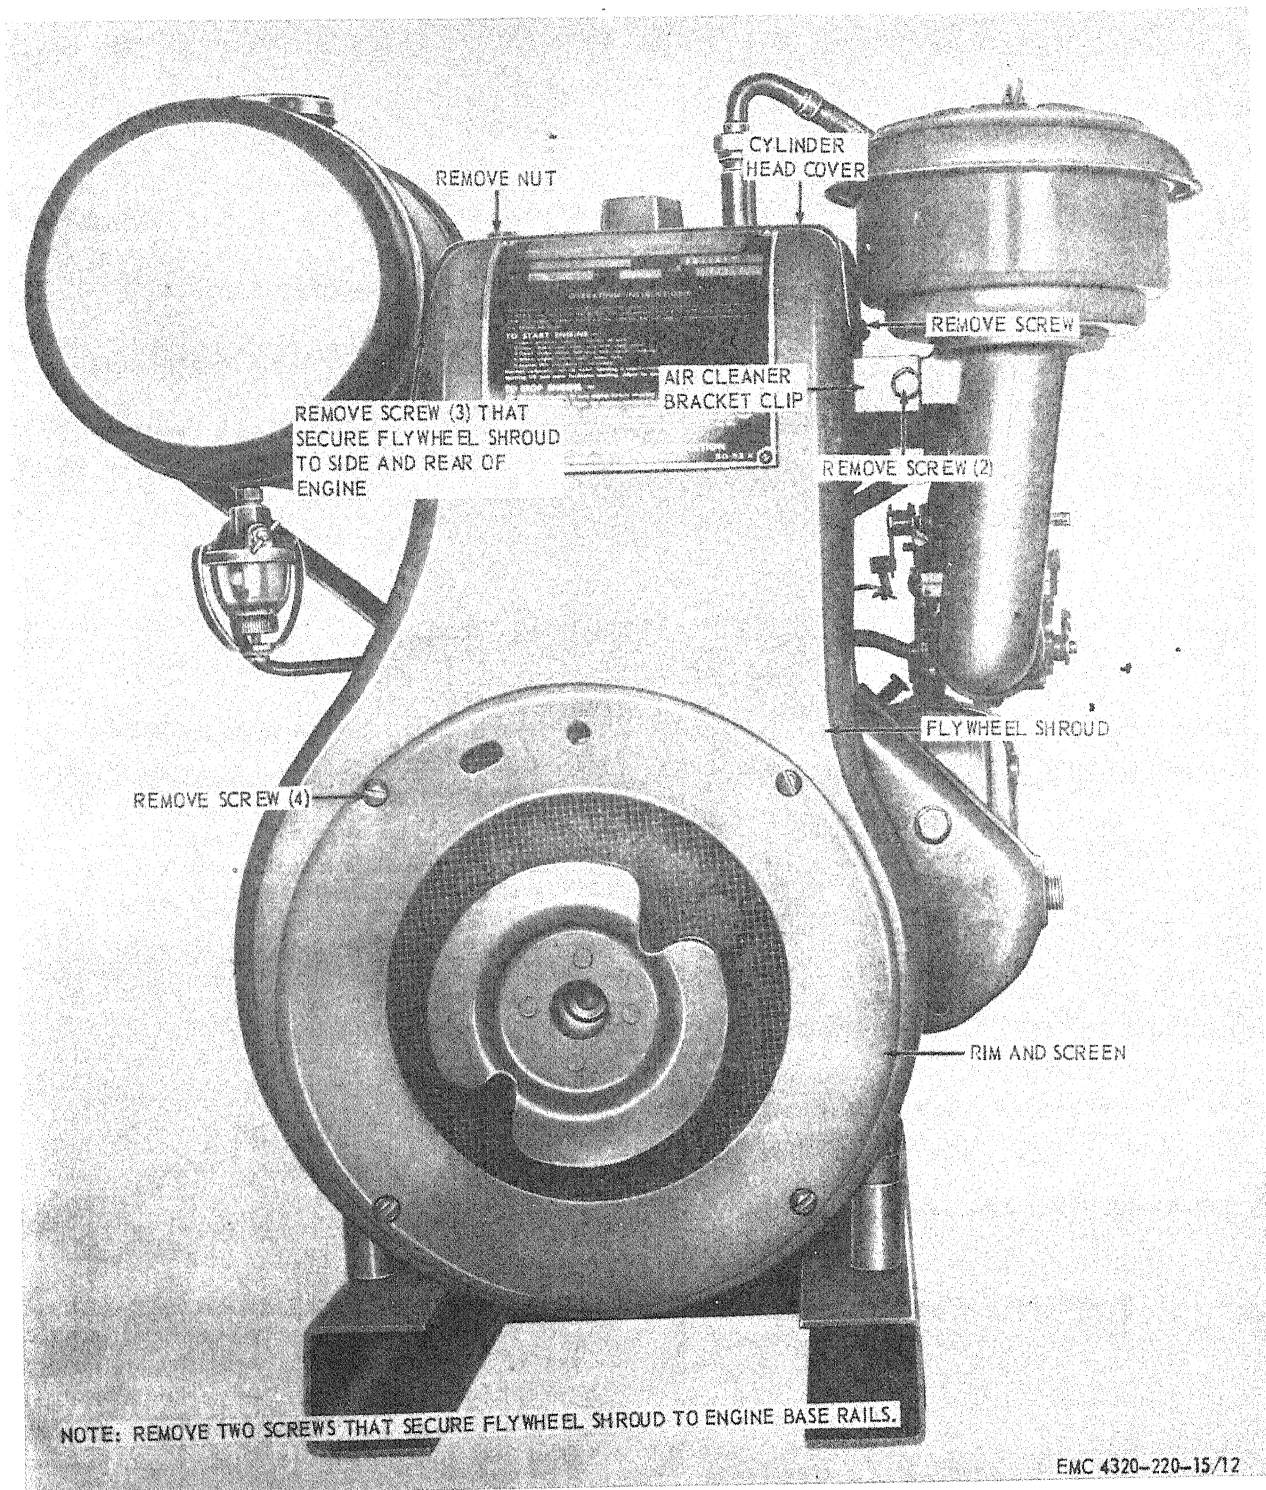

Figure 12. Cylinder head cover and flywheel shroud, removal and installation.
- d. Remove and install the cylinder head cover and flywheel shroud as shown by figure 12.
- Remove and install the air cleaner bracket clip as shown by figure 12.